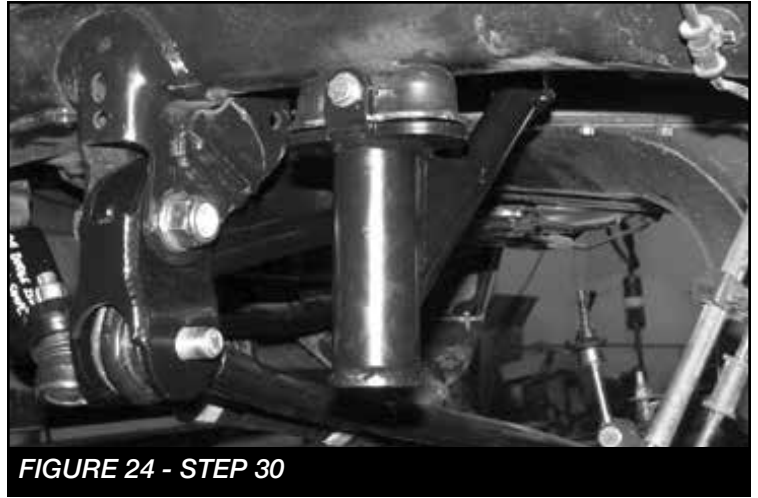

FIGURE 24 - STEP 30
30. Locate a 5/16"-18 x 2-1/2" bolt, nut and washers. Using this bolt, secure the bump stop to the factory bump stop mount and torque to 29 ft-lbs. **SEE FIGURE 24**